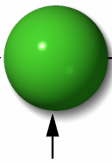

Figure 5-4. **Manual Value to Analog Point**
- 5. Choosing an analog input, analog output or a parameter will allow: **setting the value** - VAL F1, or **increasing the value** - F3, **decreasing the value** - F4 and **toggle Manual/Automatic mode** - F2. See figure 5-4.